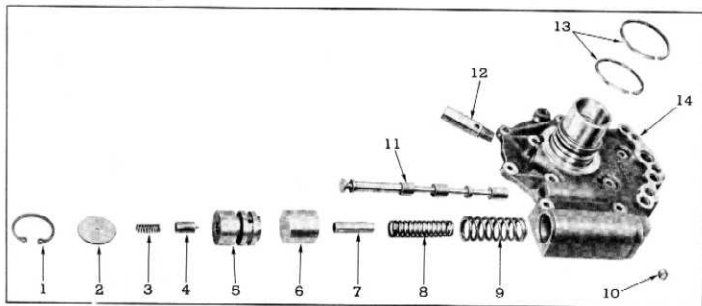

Fig. 106—Layout of Valve Body
7. Figure 106 shows layout of valve body parts.